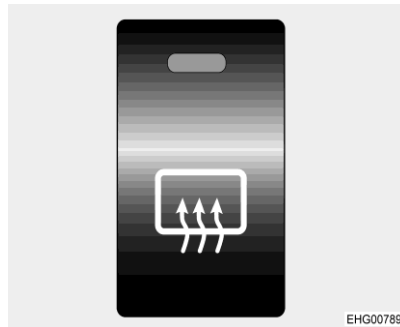

Fig. 38 External mirror heater switch
- Press the switch (Fig. 38) on the dashboard. The switch indicator lamp shows it is in operation.